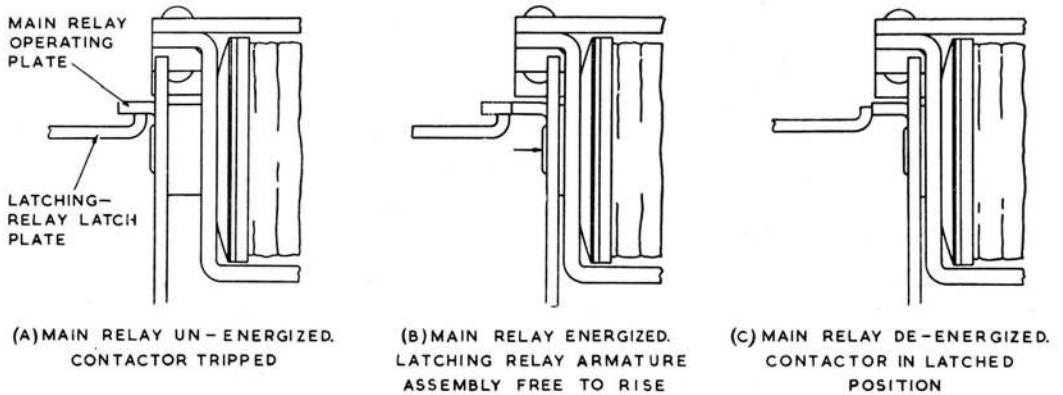

Fig. 3. Operation of latch mechanism
6. When the main relay armature has reached its fully-home position, the resultant latch clearance (fig. 3) allows the latching